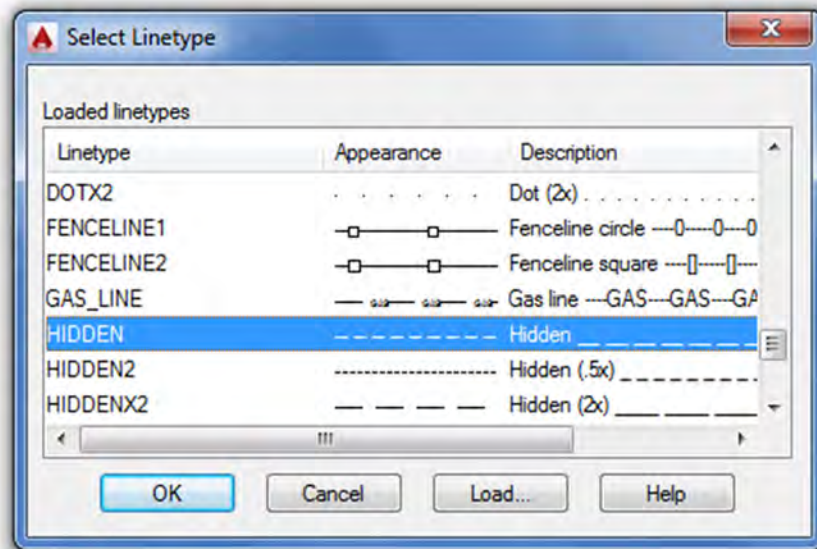

FIGURE 3.9
- Step 3.** Click on the word `Continuous`, and the `Select Linetype` (Figure 3.9) dialog box comes up with all your linetypes preloaded. If we did not load them earlier, the box would be practically empty and we would have to do the loading at this point.